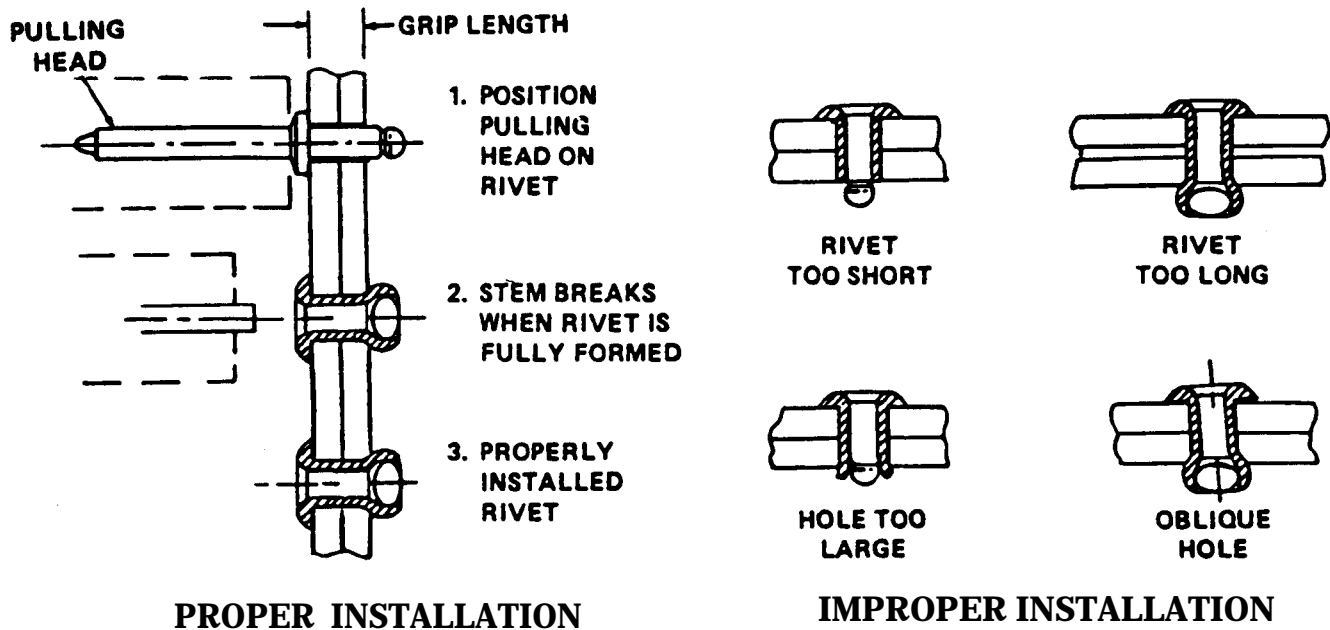

Figure 3-6. Installing Blind Rivets.
(1) Installation. (Figure 3-6)